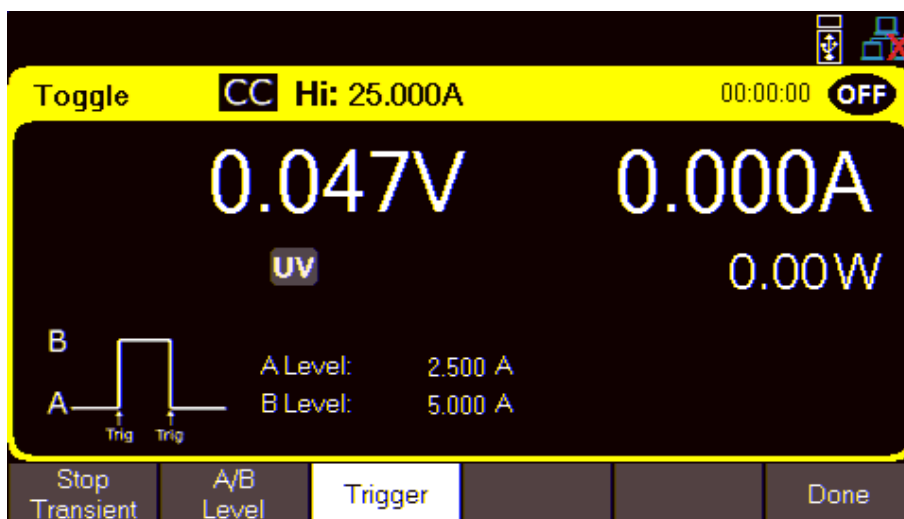

Figure 6.8 Hold Trigger Available
- **Hold:** The trigger source is the press of the trigger key, either assigned to a programmable key or appears as a softkey when the trigger function becomes available (see **Figure 6.8**).